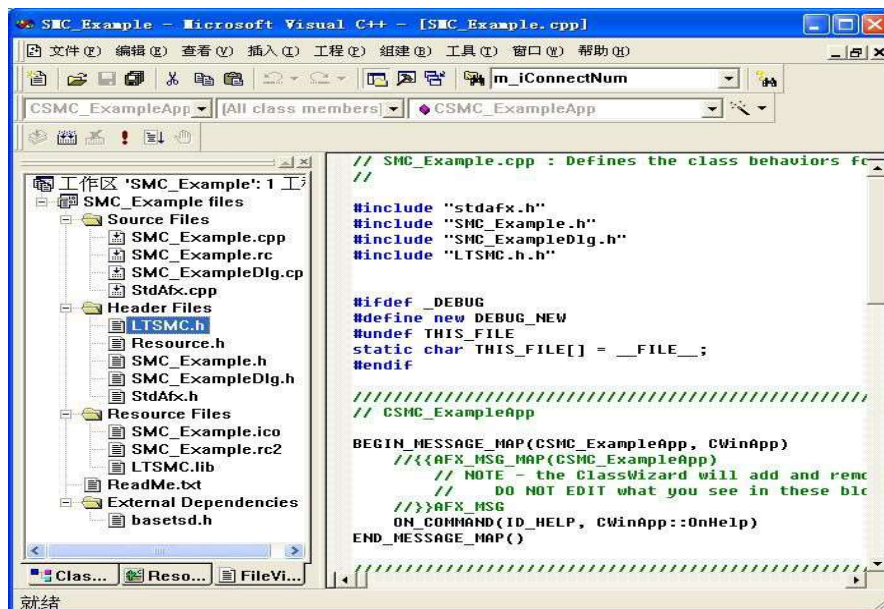

Fig. 1.2 Add header file in program
- 9) Open the file SMC_EXAMPLE.cpp and SMC_EXAMPLEDlg.cpp, add the corresponding phrase “#include “LTSMC.h” at the beginning part of program, as shown in Fig. 1.2.